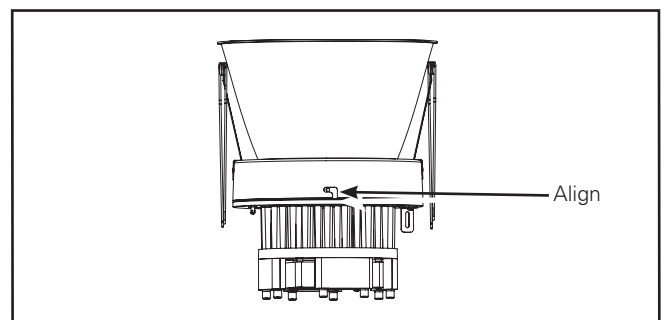

Figure 6.
3. Place LED Engine into Lower trim. Align trim slots with engine screw holes. (Figure 6.)